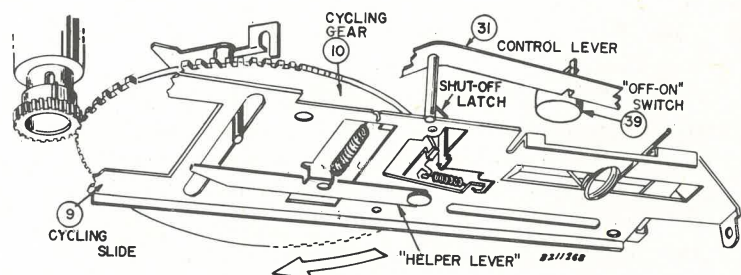

Figure 17—Shut-off Occurs
The stud extending upward from the cycling gear (10) resets the trip lever (44). The landing lever (35) moves away due to the action of the index lever (94). The "helper" (fig. 17) on the cycling slide assists in the completion of the last portion of the cycle of operation. At this time the cycling gear has rotated one complete revolution, the cycling slide has completed its inward travel, and the pin on the cycling gear rests in the center of the elongated slot in the cycling slide.